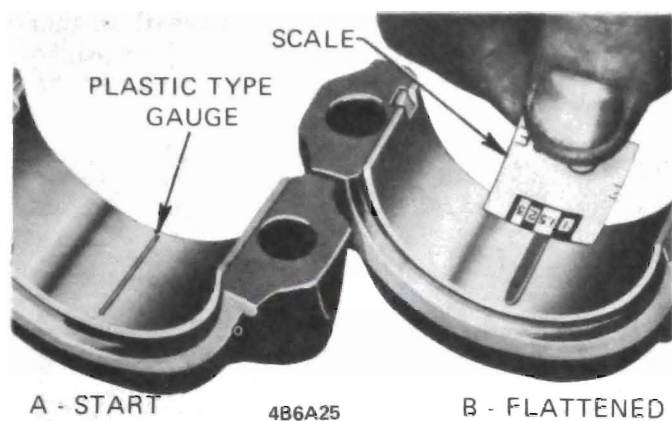

Figure 6A-74 - Checking Bearing Clearance With Plastic-Type Gauge
2. Place a piece of plastic-type gauge lengthwise along the bottom center of the lower bearing shell (Figure 6A-74, View A), then install cap with shell and torque bolt nuts to 45 lb. ft. (455 Cu. In.) and 40 lb. ft. for (350 Cu. In.) capscrews.
5. Using the scale printed on the plastic-type gauge envelope, measure the flattened plastic-type gauge at its widest point. The number within the graduation which most closely corresponds to the width of plastic-type gauge indicates the bearing clearance in thousandths of an inch. See Figure 6A-74, View B.